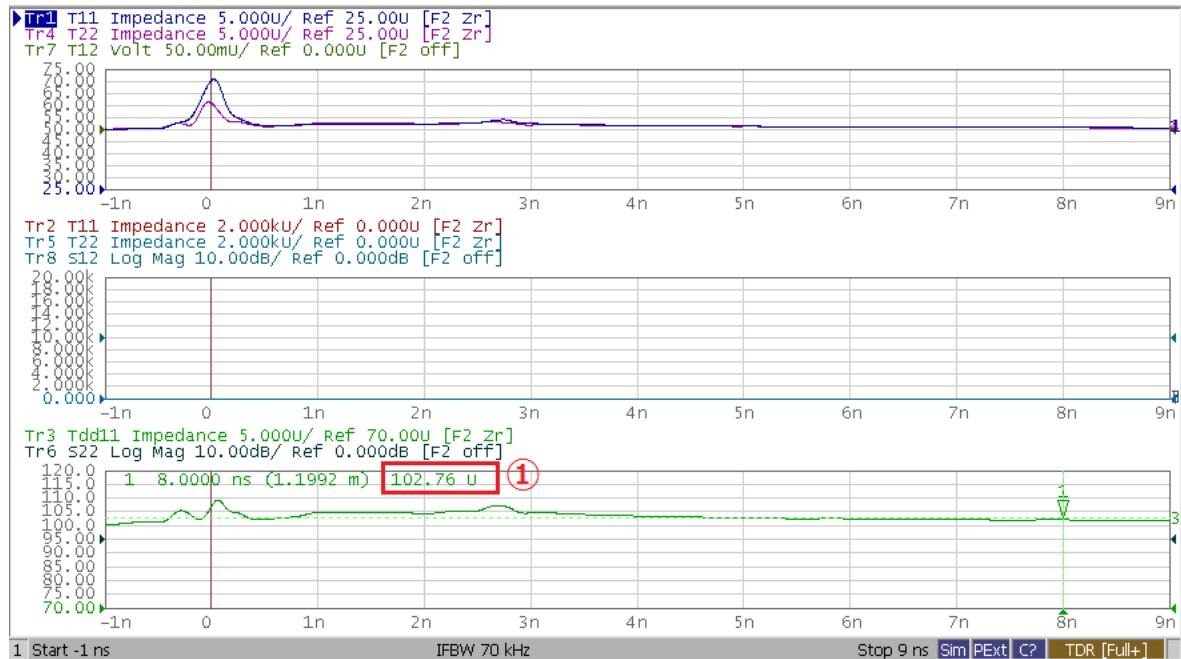

Figure 5-4 Differential Termination Resistance (R_{DEF-RX}) Example
6. Read the marker value³ (item 1 in Figure 5-4) as R_{DIF-RX} for the RXDP and RXDN